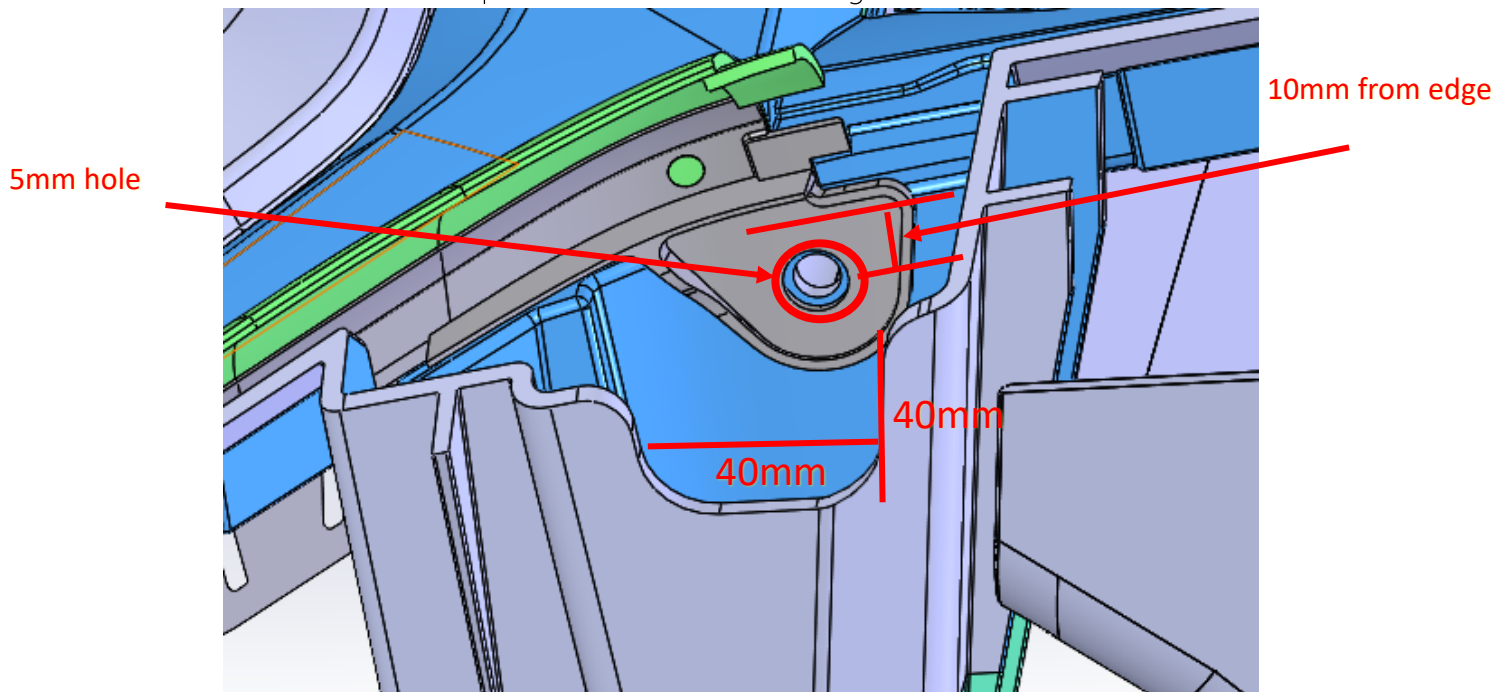

Figure 14 – Passenger Bottom View Upper Fascia
- Drill 5mm hole in position on each side – Fig. 14